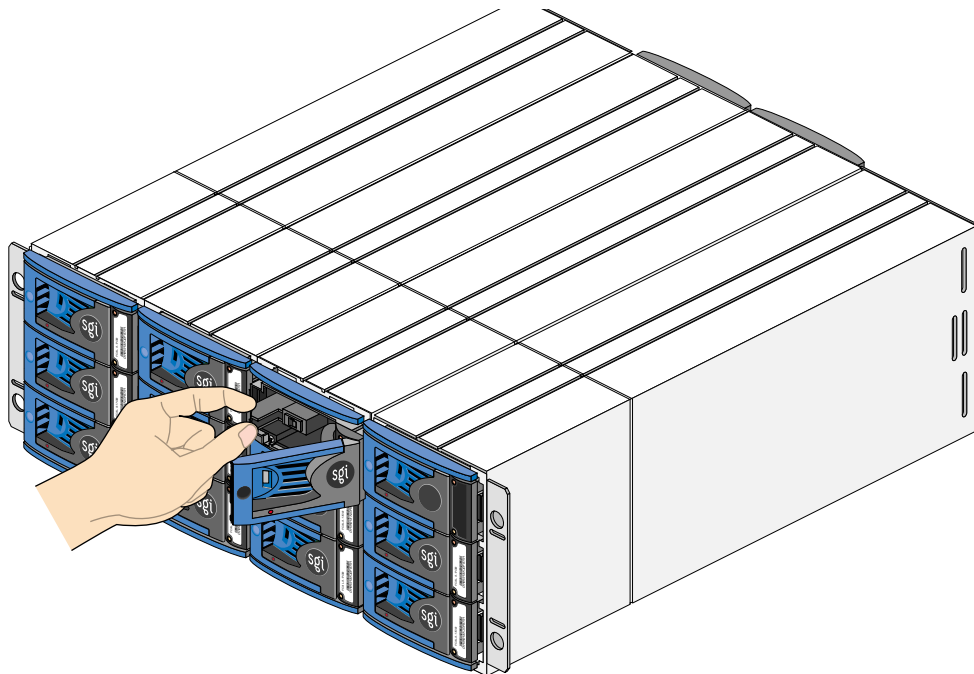
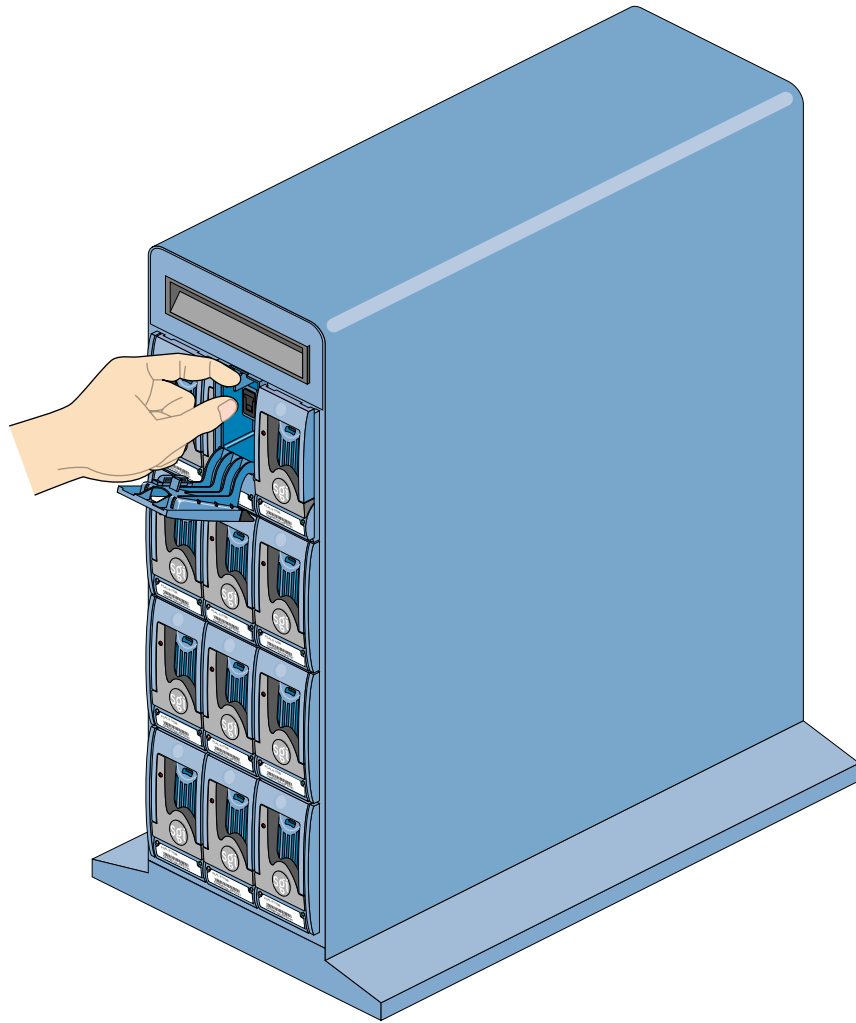

Figure 6-6 Drive Seated: Rackmount Enclosure
Figure 6-7 Drive Seated: Tower
6. Push the disk drive module gently into the chassis until it is stopped by the camming lever on the right of the module. Figure 6-6 shows the procedure in a rackmount enclosure; Figure 6-7 shows it in a tower.